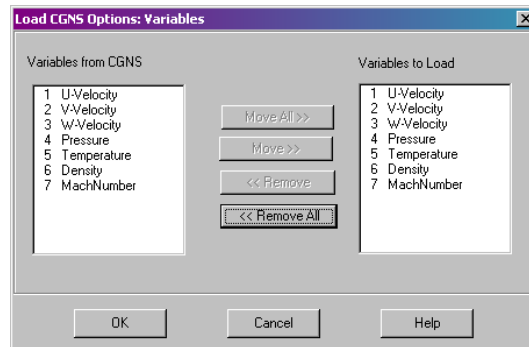

Figure 7-5. The CGNS Loader: Variables dialog.
- **Select Variables:** Launches the Load CGNS Options: Variables dialog, which allows you to select specific field variables to load. Grid variables are always loaded automatically. The dialog is shown in Figure 7-5.
The Variables dialog contains two lists: Variables from CGNS and Variables to Load, and is shown in Figure 7-5.